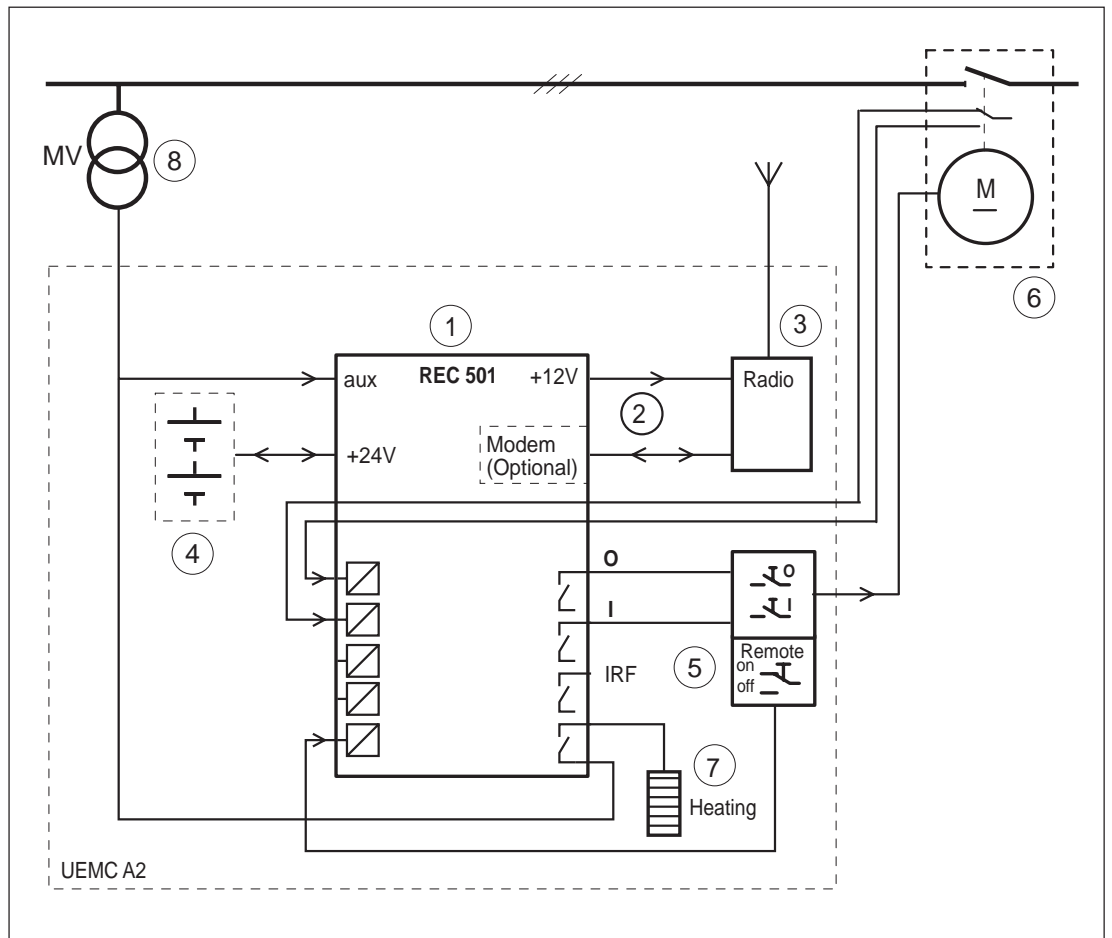

Fig. 2. A REC 501 unit used for remote control of a disconnecter. The motor operating device is fitted to the disconnecter.
Figure 2 shows an application in which the REC 501 unit controls and monitors a disconnecter remotely. The disconnecter has an integrated motor operating device. The enclosure can be mounted on a wall or in a pole. Local regulations should always be followed. The same components as in the previous example are used. In addition, a heating element (7) and a distribu-